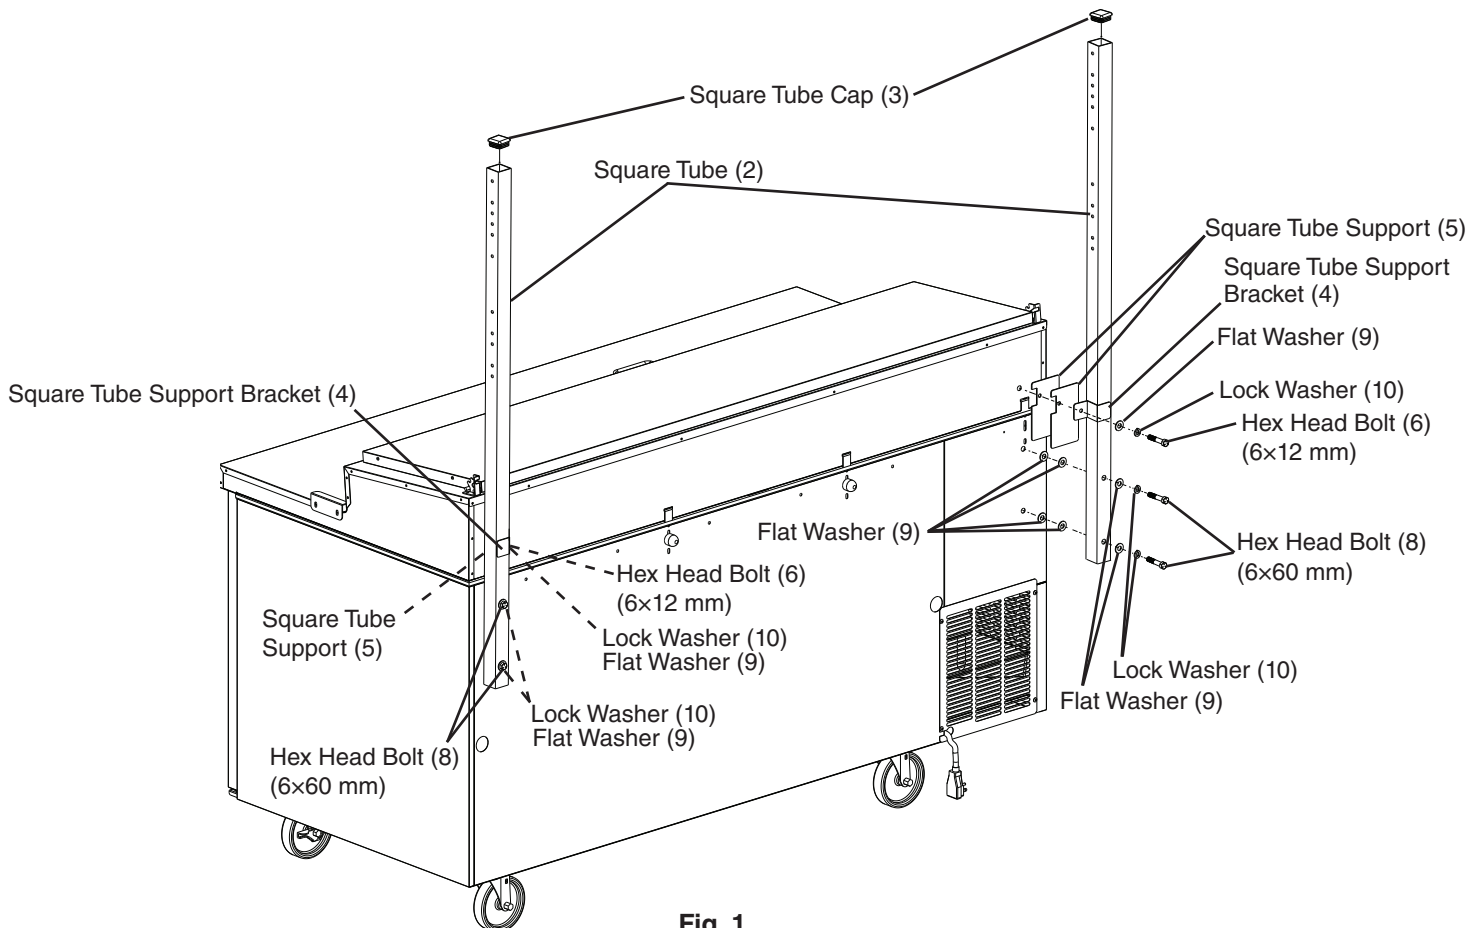

Fig. 1
- 2) Using 6×60 hex head bolts (8), lock washers (10), and flat washers (9), secure square tubes (2) to the rear panel. See Fig. 1. Do not tighten at this time. Note: Leave enough room to install square tube supports (5) in step 3.
- 3) Using 6×12 hex head bolts (6), lock washers (10), and flat washers (9), place and secure square tube supports (5) and square tube brackets (4) to the rear panel and tighten.
- 5) Insert square tube caps (3) into the top of square tube (2).